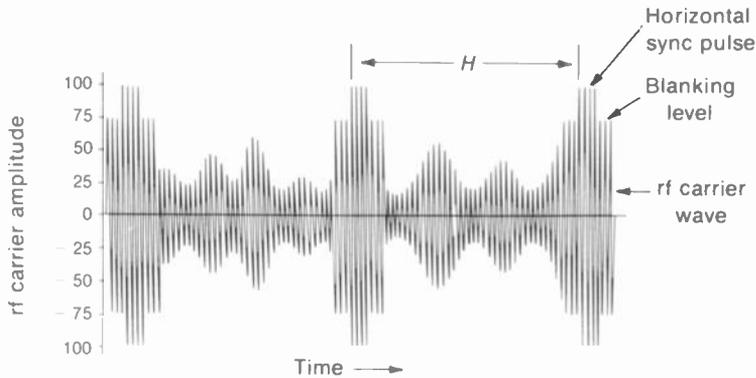

FIGURE 6-1 TRANSMITTED PICTURE CARRIER WAVE, AMPLITUDE-MODULATED BY COMPOSITE VIDEO SIGNAL.
The method of transmitting the amplitude-modulated (AM) picture signal is similar to the more familiar system of AM radio broadcasting. In both cases, the amplitude of an rf carrier wave is made to vary with the modulating voltage. Modulation is necessary so that each broadcast station can have its own rf carrier frequency. Then the rf section of the receiver can be tuned to different stations. In television broadcasting, the composite video signal modulates a higher-frequency carrier wave to produce the AM picture signal\* illustrated in Fig. 6-1. The amplitudes in the transmitted carrier wave vary with the video modulating signal. More details of the AM picture signal are explained in the following topics:
The transmitted picture carrier signal in Fig. 6-1 is shown with the negative polarity of modulation that is an FCC standard. Negative transmission means that changes toward white in the picture decrease the amplitude of the AM picture carrier signal.
In Fig. 6-1 the tips of sync voltage produce the peaks of rf amplitude in the AM carrier wave. This peak carrier amplitude is its 100 percent level. The blanking level in the composite video signal is transmitted at a constant level of 75 percent of peak carrier amplitude. Smaller amplitudes in the modulated rf carrier correspond to picture information that varies between black and maximum white. The whitest parts of the picture produce a carrier amplitude 10 to 15 percent of the peak value. All these relative amplitudes are the same for the top or bottom of the envelope because the modulated rf carrier wave has a symmetrical envelope of amplitude variations.